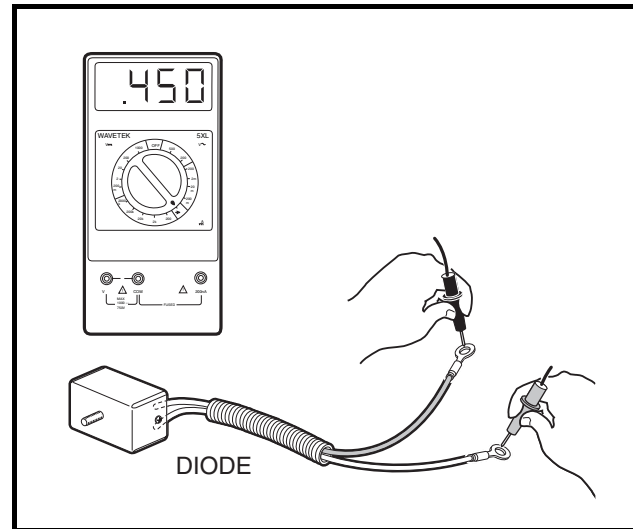

Figure 11-19 Diode Test – Probes Reversed
5. Reverse the multimeter probes and note the reading. With the black (–) probe of the multimeter to the red lead of the diode and the red (+) probe of the multimeter to the white lead, the meter should read approximately 450 mV, however, a range of 400-500 mV is acceptable (**Figure 11-19, Page 11-20**).